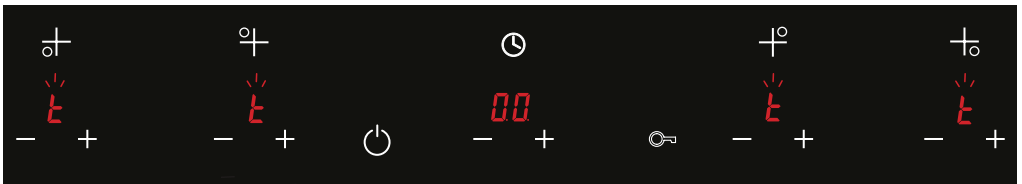

Figure 54
5. When you want to set the timer; the **t** symbol flashes on the hob displays when you press the **+** and **-** keys. This means that the relevant hob where the timer shall be set and the temperature shall be set. (See Fig. 54)